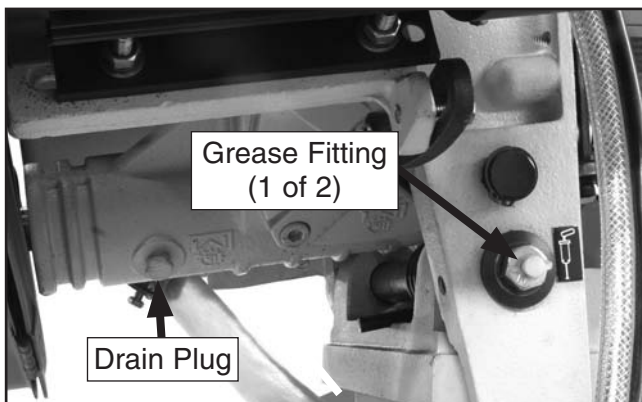

Figure 52. Lubrication points.
- **Grease Fittings on Pivot Point:** Grease these with general purpose grease as needed to keep the pivot moving freely (see **Figure 52**).
4. Drain the gearbox by removing the drain plug shown in **Figure 52**.